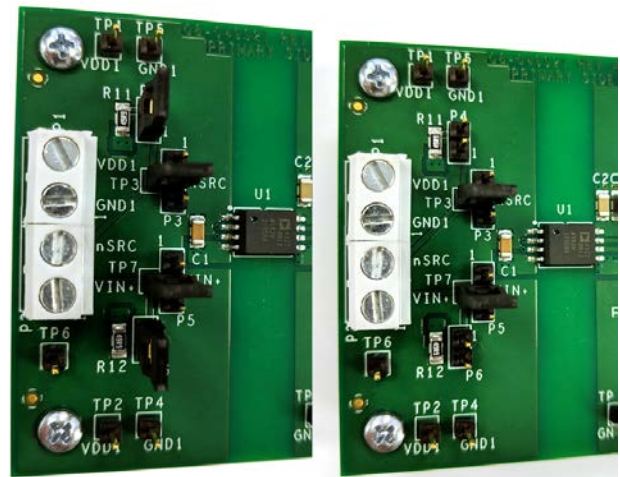

Figure 3. 50 Ω Terminated (Left) and High Impedance (Right)
5. The R11 and R12 resistors terminate the inputs, $V_{\text{IN+}}$ and SRC with 50 Ω loads. The P4 jumper pin and the P6 jumper pin connect R11 and R12, but when R11 and R12 are not connected, the evaluation board accepts high impedance, input generator signals from an external source (see Figure 3).